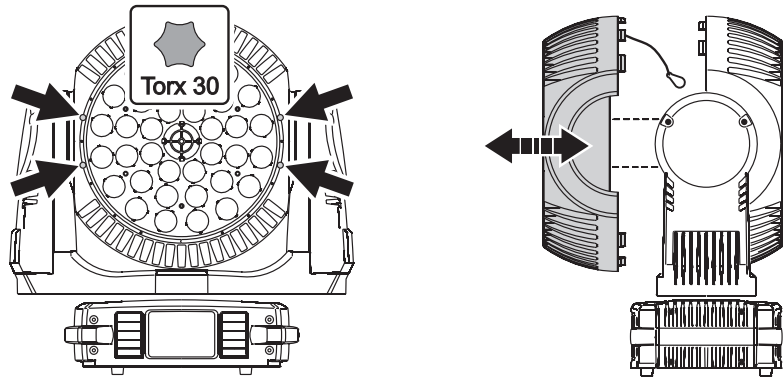

Figure 8: Head module removal/installation
2. See Figure 8. Use a Torx 30 screwdriver to release the four head module retaining screws (arrowed), lift the module away from the yoke slightly, disconnect the head module safety wire and lift the module away from the head.